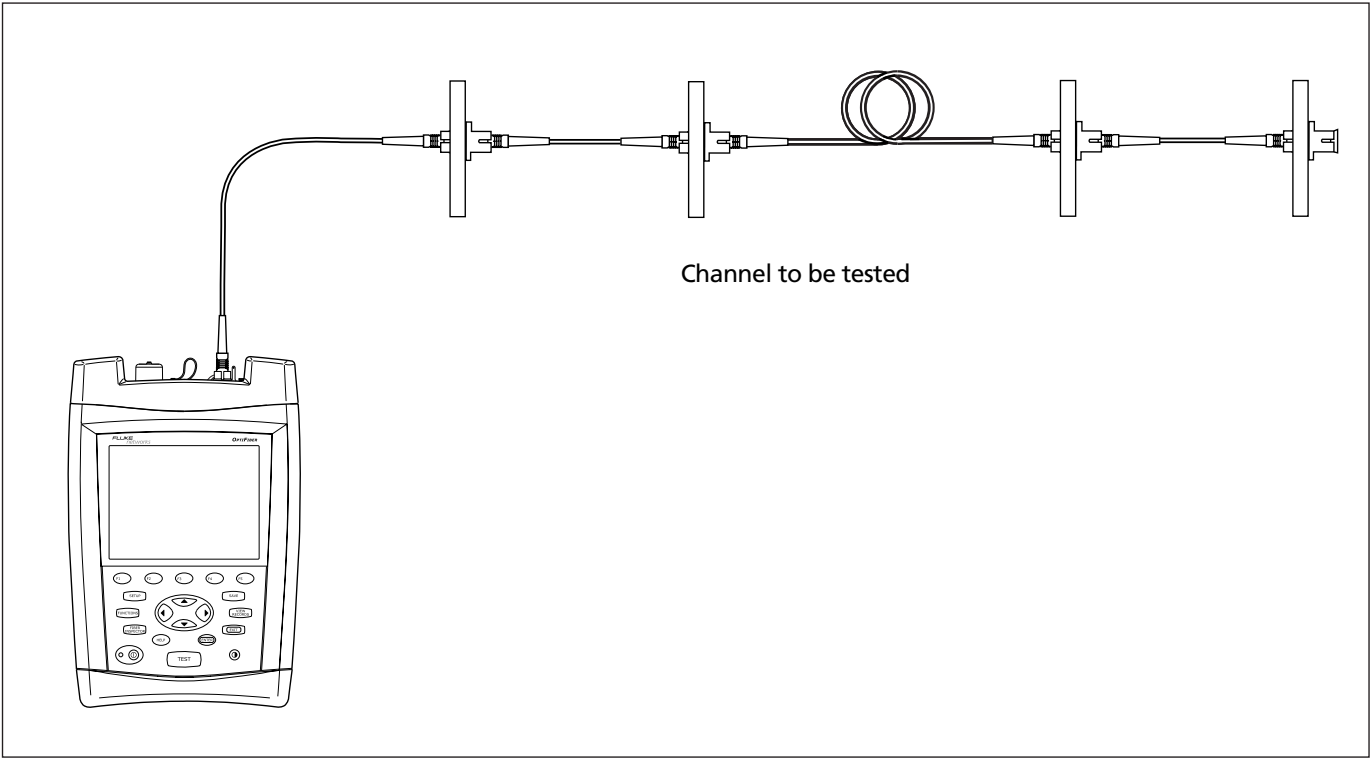

Figure 5-2. FaultMap Test Connections
- 4 Connect the launch fiber to the OTDR port and the channel to be tested, as shown in Figure 5-2.